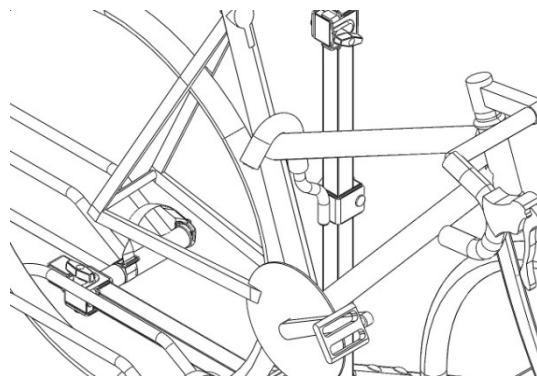

FIGURE 11
7. Bicycles with inclined frames (angled cross tube i.e. women's bicycles), position frame hook at the intersection of the vertical tube and inclined tube to prevent slippage during use. (Fig 11)